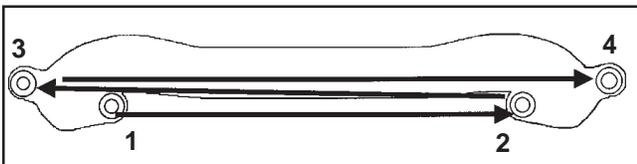

**Figure 11-50. Setting Ignition Module Air Gap.**
5. Insert a **0.30 mm (0.012 in.)** flat feeler gauge between the magnet and the ignition module. See Figure 11-50. Loosen the screws enough to allow the magnet to pull the module down against the feeler gauge.